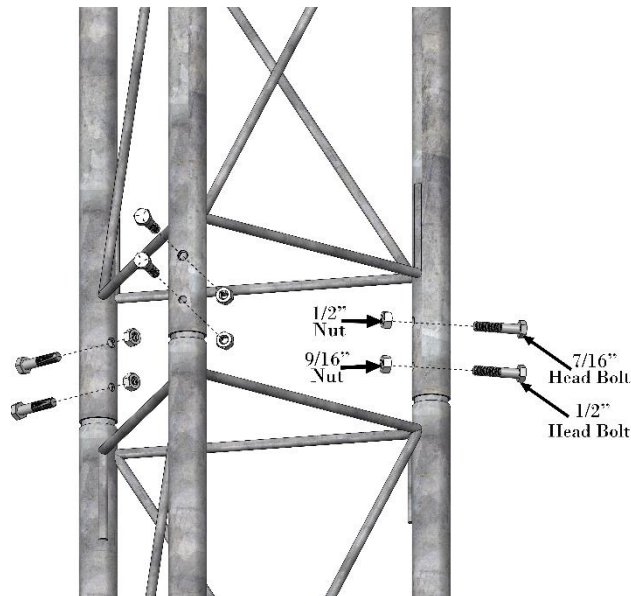

Figure 35 2 x 10' Tower section bolt assembly
2. Secure the (3) tower legs sections using (3) 7/16" head bolt and (3) 1/2" Nuts. Then secure using (3) 1/2" head bolt and (3) 9/16" nuts as per Figure 35.